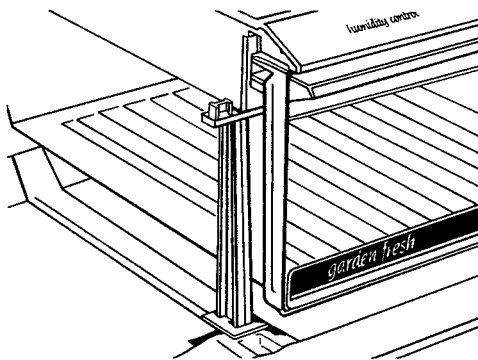

Figure 29.
- h. Remove crisper from support which fits into recess at bottom center of refrigerator. See Figure 29.